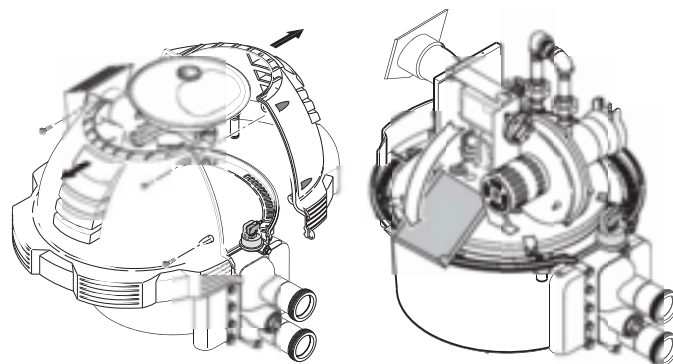

Figure 24.
2. Unbolt and remove the upper jacket halves (see Figure 24).